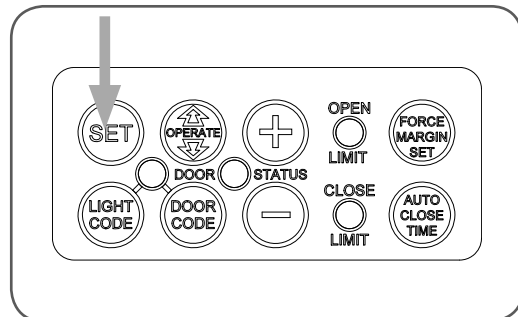

fig 47
- Press and hold the SET Button (**Fig 47**).